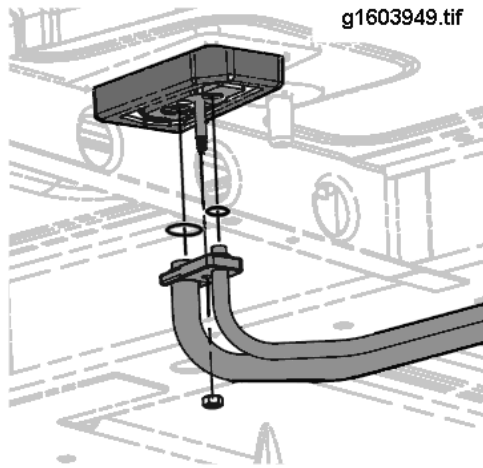

Figure 58 Connecting A/C Lines to Thermal Expansion Valve
4. From under the vehicle, disconnect the A/C lines from the Thermostatic Expansion Valve (TXV). Refer to Figure 58. Retain the lock plate and lock plate retaining nut. Plug all open tubes/ports.
11. Using new O-rings, connect the A/C lines to the TXV. Secure with the lower locking plate and the lock plate retaining nut (Figure 58). Tighten to 9,000 to 10,000 N.mm (80 to 90 lbf-in).